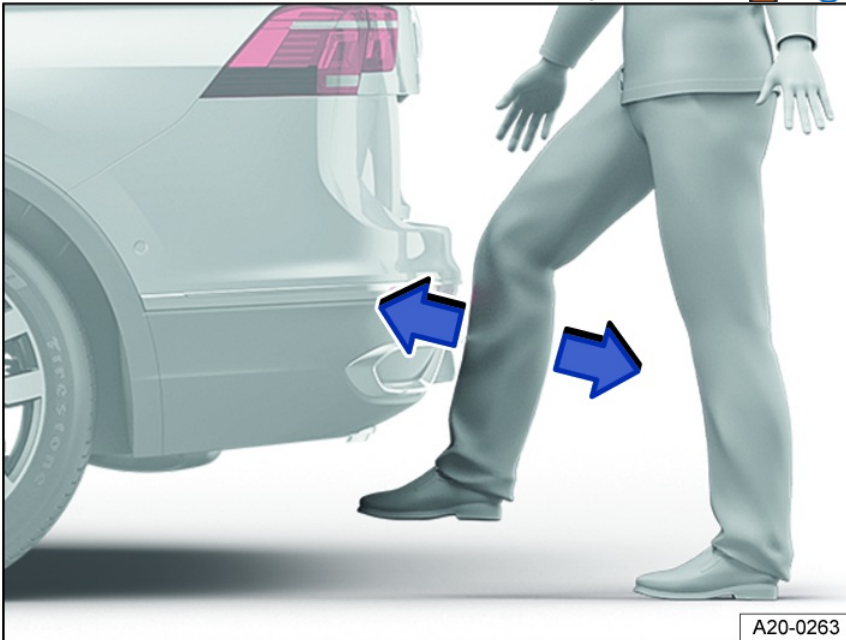

Fig. 54 General example of the sensor-controlled luggage compartment opener (Easy Open).
2. Quickly swing the lower part of your leg close to the bumper *fig. 54*.